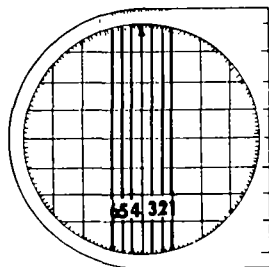

Figure 10-7. Plotting board with burst lines.
b. Remove the transparent disk from the plotting board, and using the center of the base as the BC, draw vertical lines (burst lines) corresponding to the desired sheaf (one small grid = 10 meters) (fig 10-7). The placement of the burst lines depends upon weapon caliber and can be predrawn on the plotting board. Normal sheaf widths are reduced for TGPC computations to compensate for the widening that occurs as the sheaf is moved away from the center of a sector. Desired widths are shown on the top of the next page.